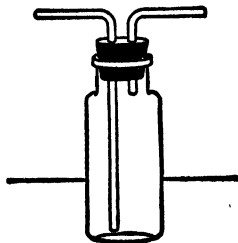

Fig. 25.
a. If this experiment is to be performed quantitatively, a gas washing-bottle (Fig. 25) will be required to dry the gas obtained as in 67 d, and should contain enough concentrated sulphuric acid to immerse the longer tube to a depth of half an inch. Attach the longer tube of the bottle by rubber tubing to the generating flask.